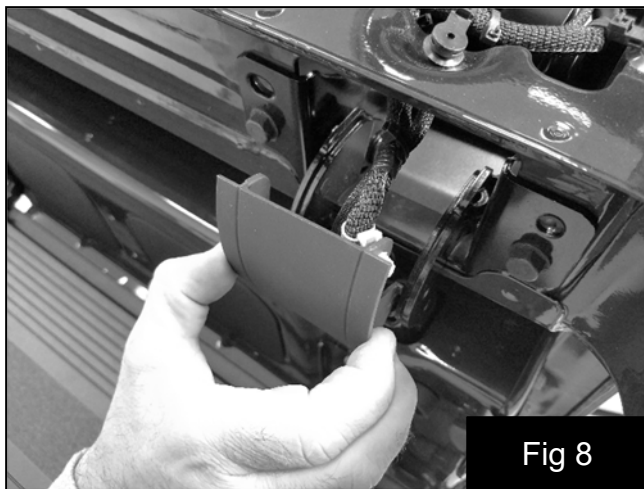

Fig 8
13. Fold the inner tailgate section down and snap loose the plastic hinge cover on the passenger side to aid in harness routing. Fig 8